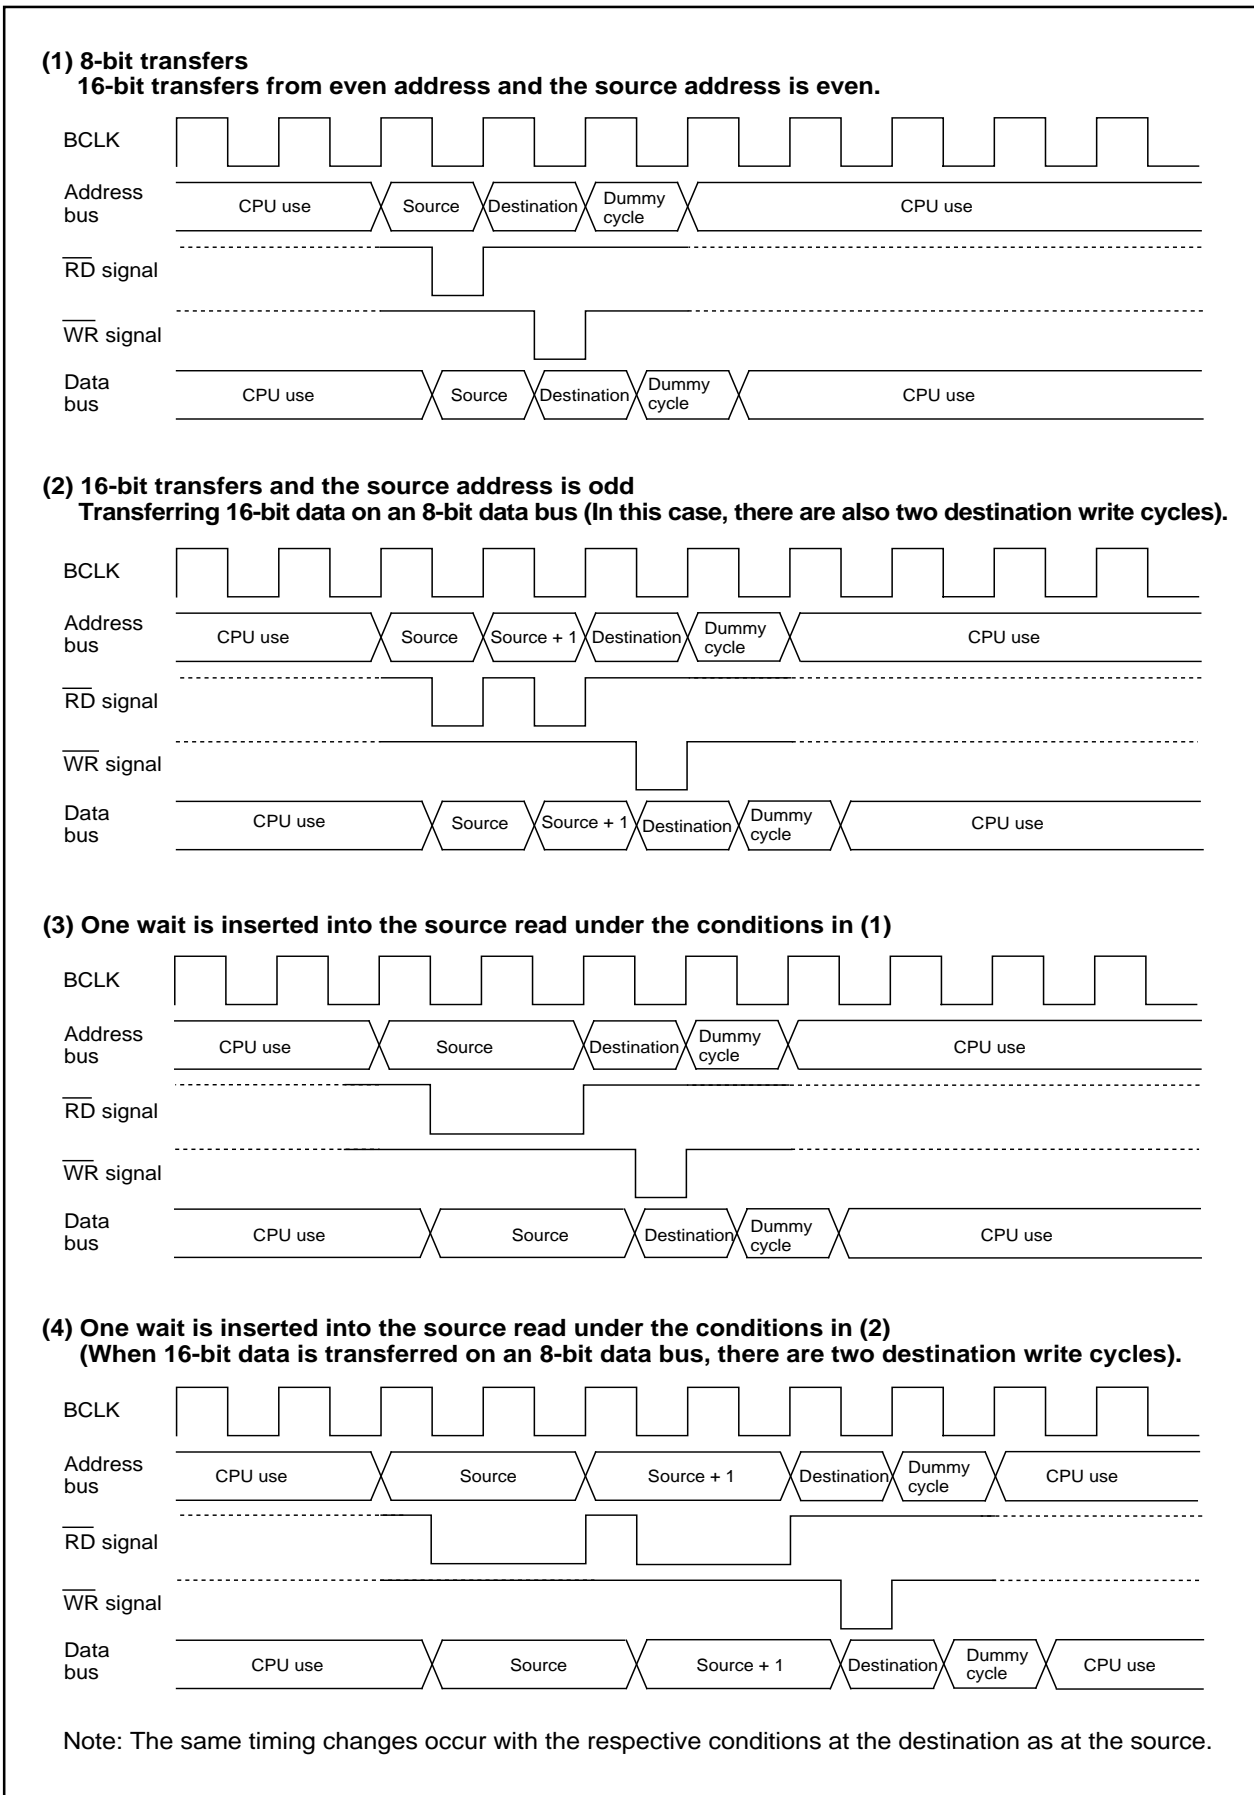

Figure 7-5. Example of the transfer cycles for a source read
Figure 7-5 shows the example of the transfer cycles for a source read. For convenience, the destination write cycle is shown as one cycle and the source read cycles for the different conditions are shown. In reality, the destination write cycle is subject to the same conditions as the source read cycle, with the transfer cycle changing accordingly. When calculating the transfer cycle, remember to apply the respective conditions to both the destination write cycle and the source read cycle. For example (2) in Figure 7-5, if data is being transferred in 16-bit units on an 8-bit bus, two bus cycles are required for both the source read cycle and the destination write cycle.